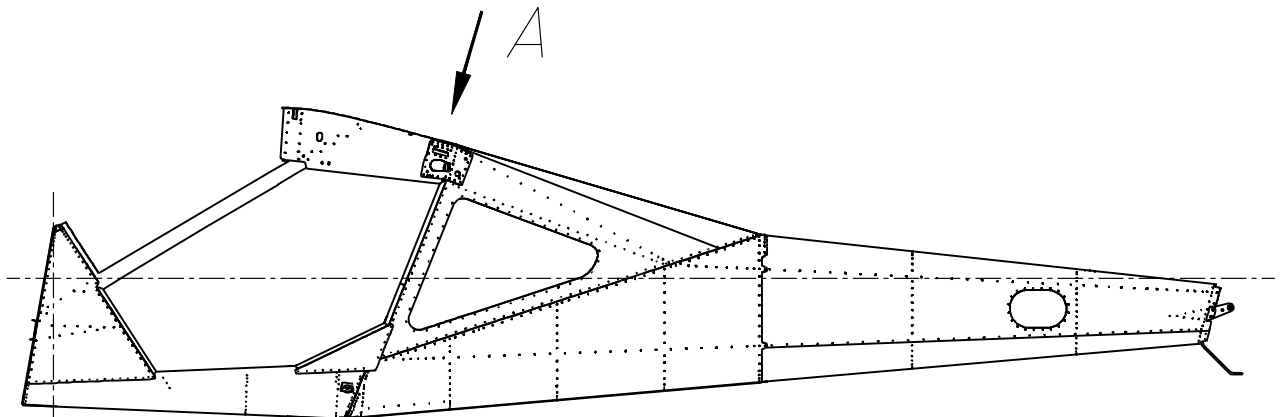

Fig.1
- 3.1) Inspect the rivet joint of the roof panel and frame No.3 (Fig.1, 2, 3), check number of the rivets (intervals between them) and their condition.